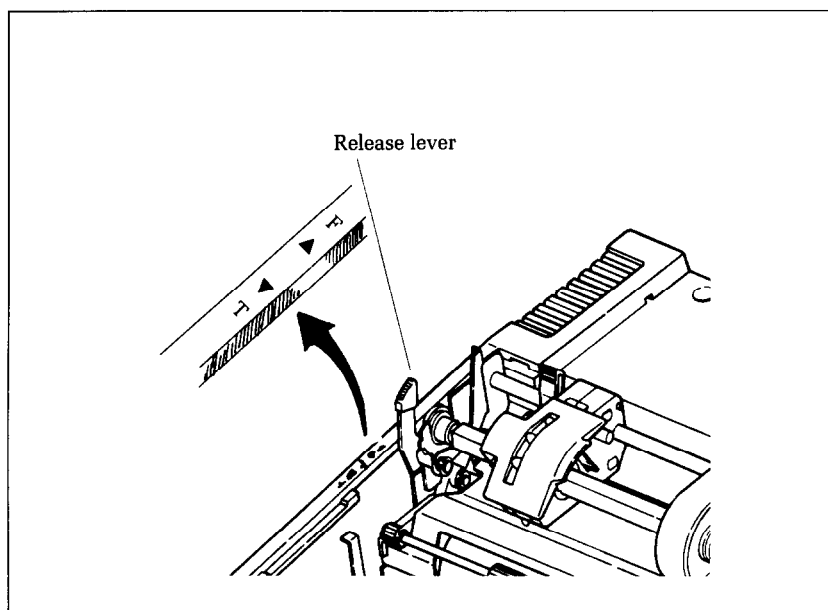

Figure 1-4. The paper release lever has two settings: "F" for friction feed and "T" for tractor feed.
2. Pull the release lever to position "T" (Figure 1-4).